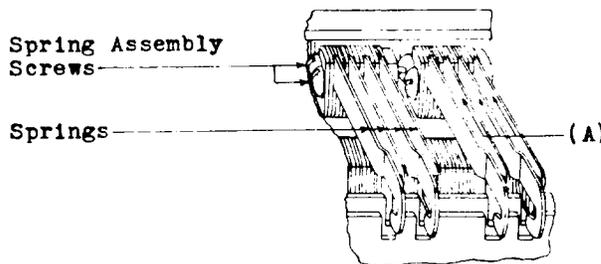

Fig. 13
2.17 Separation Between Springs - Fig. 13 (A) - There shall be a clearance between adjacent springs whether in the operated or unoperated position of the relay of Min. .008" Gauge by eye.